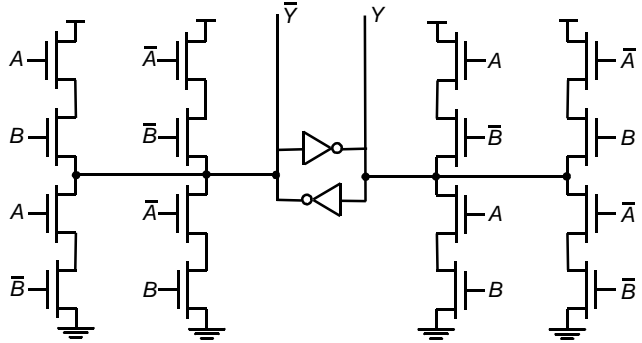

Figure 6.9 Cascoded Logic Styles.
14. Describe the logic function computed by the circuit in Figure 6.9. Note that all transistors (except for the middle inverters) are NMOS. Size and simulate the circuit so that it achieves a